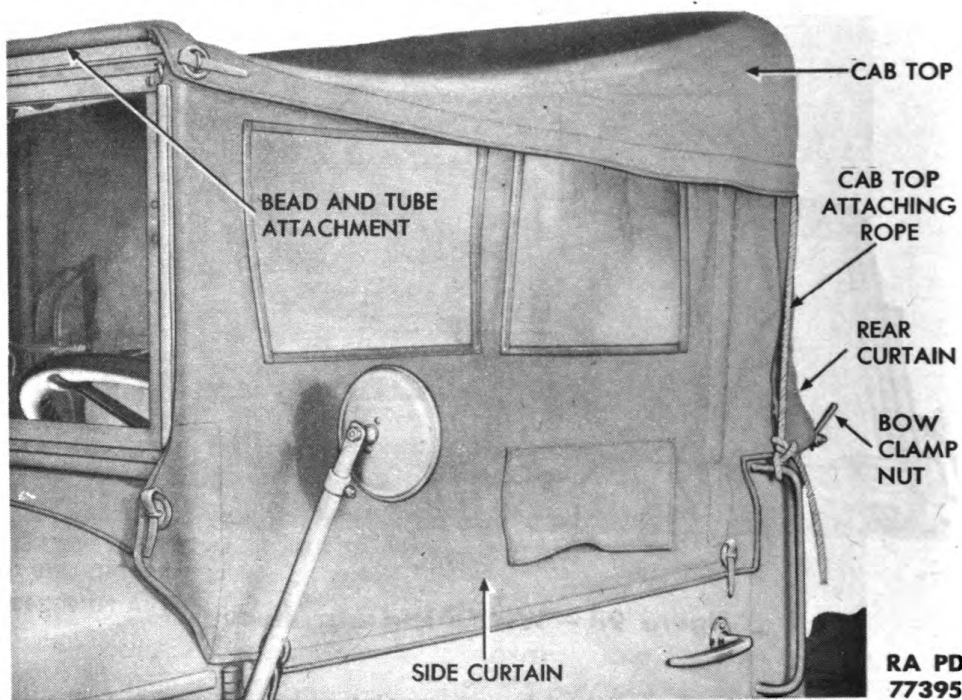

Figure 99 – Cab Top Installed – Exterior
a. Description (figs. 99 and 100). The cab top is attached to cab between the windshield, top bow, and rear top of cab. It is provided with side curtains and serves to protect interior of cab from the weather. Side curtains are windowed to provide side vision when curtains are installed. The top is attached at the front by means of a beading which slides into a tube at top of windshield frame. It is attached at the rear with the rope threaded through grommets in the seam slips under hooks attached to cab just above tire carrier assembly.
c. Removal (figs. 99 and 100). Unhook the three ropes which secure top cover to cab. Pull cab top over roof bow and windshield. Slide bead at front edge of top from tube attached to top of windshield frame. Remove top from cab. Loosen top bow clamps and nuts. Detach rope securing rear curtain to cab. Remove curtain and top bow as a unit.
d. Installation (figs. 99 and 100). Install top bow and cab rear curtain at rear of cab. Lash rope threaded through curtain seam to lashing hooks on cab. Slide bead at front edge of top cover through tube at top of windshield. Pull cover over top bow. Attach three ropes which secure cover to cab.